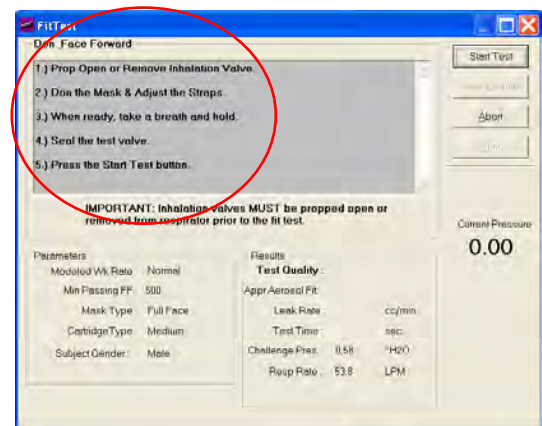

Fig. 7 – Instructions for Protocol Step
28. Read instructions at each step of the test (Fig. 7)